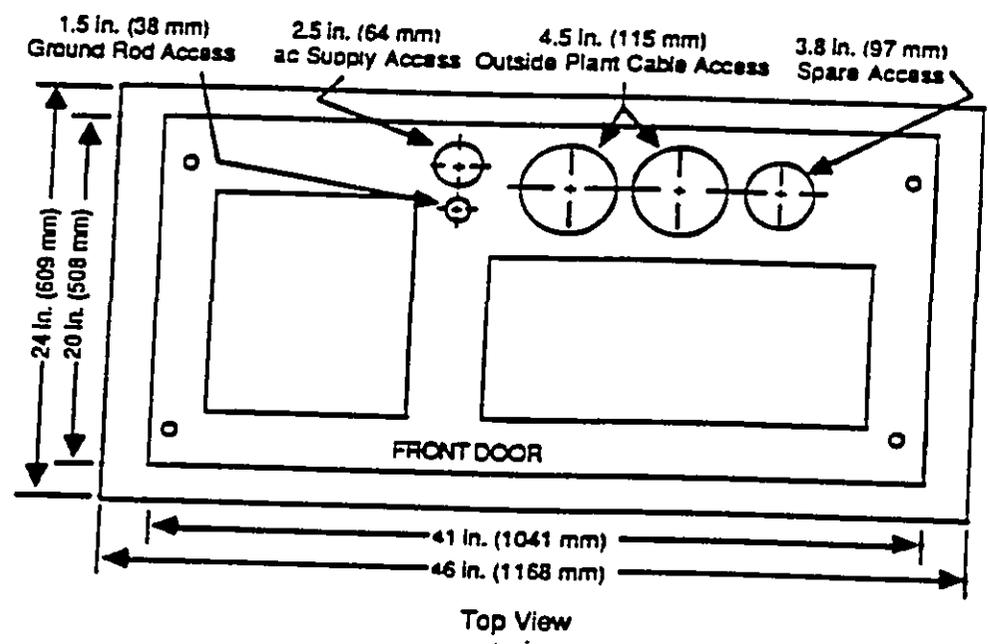

Fig. 2-1
*Note:* Refer to Figs. 2-1 through 2-3 for dimensions and layout.
- 4 Level the top of the form, then place the anchor plate assembly on top of the form and secure it in place by nailing the angles to the form. Use the plastic caps provided to protect the anchor bolt threads. Ensure that the front of the anchor assembly is placed to coincide with the front door side of the cabinet (see Fig. 2-1).